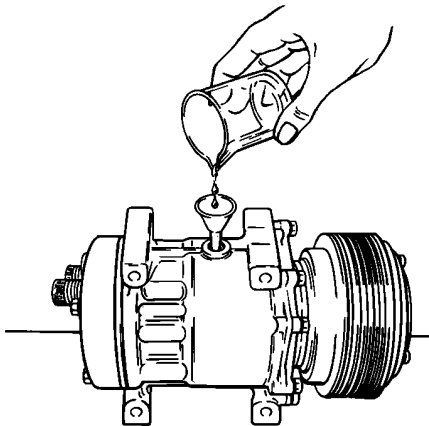

Figure 46 Add New Oil to Compressor
9. If the oil is not contaminated, add the correct amount of new oil to the compressor as determined by the OIL FILL GUIDELINES (See OIL FILL GUIDELINES, page 116). Refer to Figure 46.